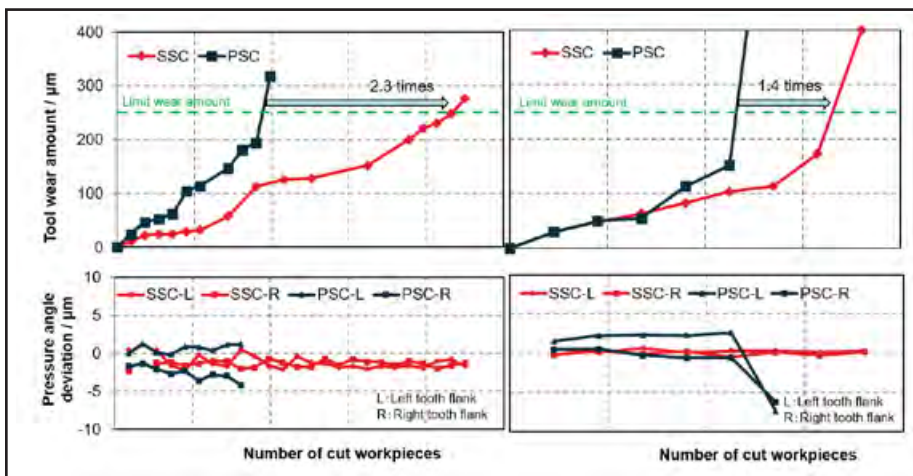
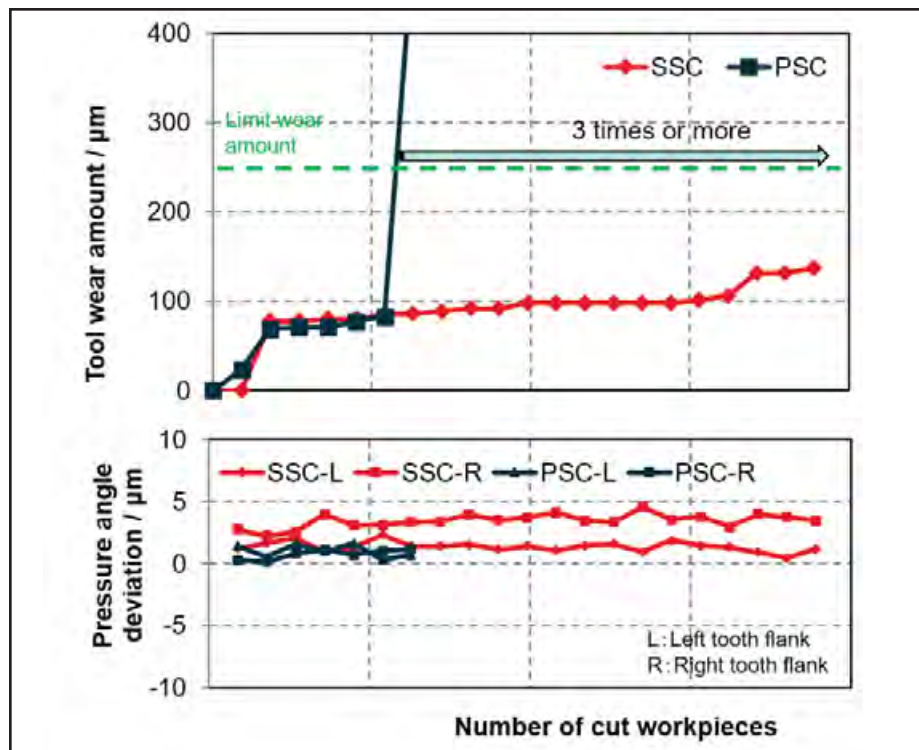

Figure 8 Comparison of performance between PSC and SSC (workpiece hardness difference).
Figure 9 Comparison of performance between PSC and SSC (cutter material: carbide).
Figure 8 gives the results of the cutting of workpieces with different hardnesses, HRC30-35 and HRC35-40, by the powder high-speed steel cutter. The upper graphs show the changes in tool wear. When the limit wear amount is 250µm, the tool life of SSC is 2.3 times longer than that of PSC for the workpiece hardness of HRC30-35, and the tool life of SSC is 1.4 times longer for HRC35-40. The lower the workpiece hardness is, the larger the performance difference between PSC and SSC becomes. The lower graphs illustrate the pressure angle deviation of the workpieces. Compared with PSC, SSC maintains almost the same pressure angle deviation in any wear amount.
Figure 9 presents the results of the cutting of the HRC35-40 workpieces by the carbide cutter. As is the case with Figure 8, the upper graph shows the changes in tool wear. When the limit wear amount is 250 µm, the tool life of SSC is 3 times longer than that of PSC, which substantially exceeds the 1.4-times increase in the results of the test using the powder high-speed steel cutter under the same conditions.
- 2.As shown in Figures 8 and 9, under the conditions where the workpiece